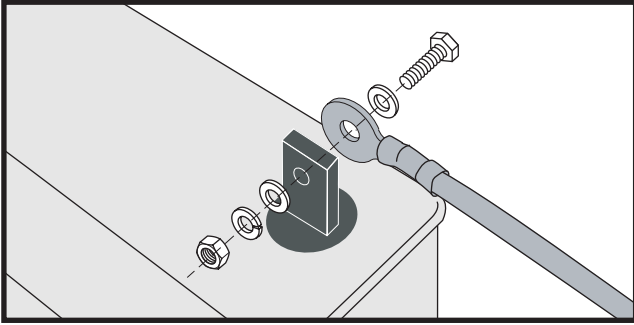

Figure 14. Cable to Terminal Connection
NOTE: See figure 14 for correct hardware placement for battery terminal connections.
1. Push forward on the seat rotation lever to disengage the seat. **See figure 14.**